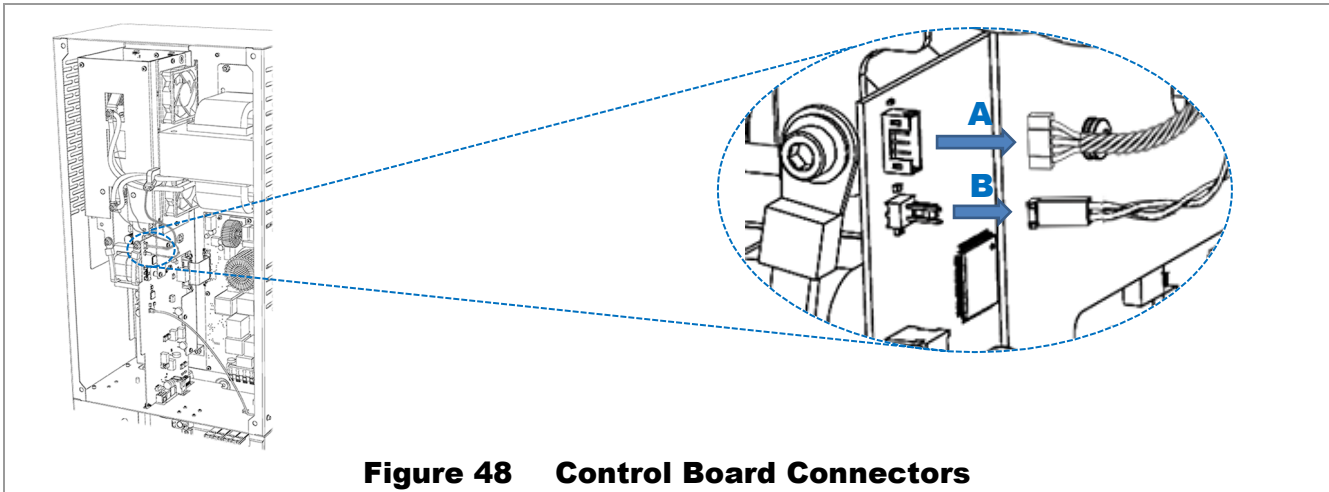

Figure 48 Control Board Connectors
1. Remove the 5-conductor current transducer plug from the control board. See **A** in Figure 48.
2. Remove the 2-pin voltage sense connector. See **B** in Figure 48.
- Replace voltage sense connector **B** and current transducer connector **A**. See Figure 48 if necessary.